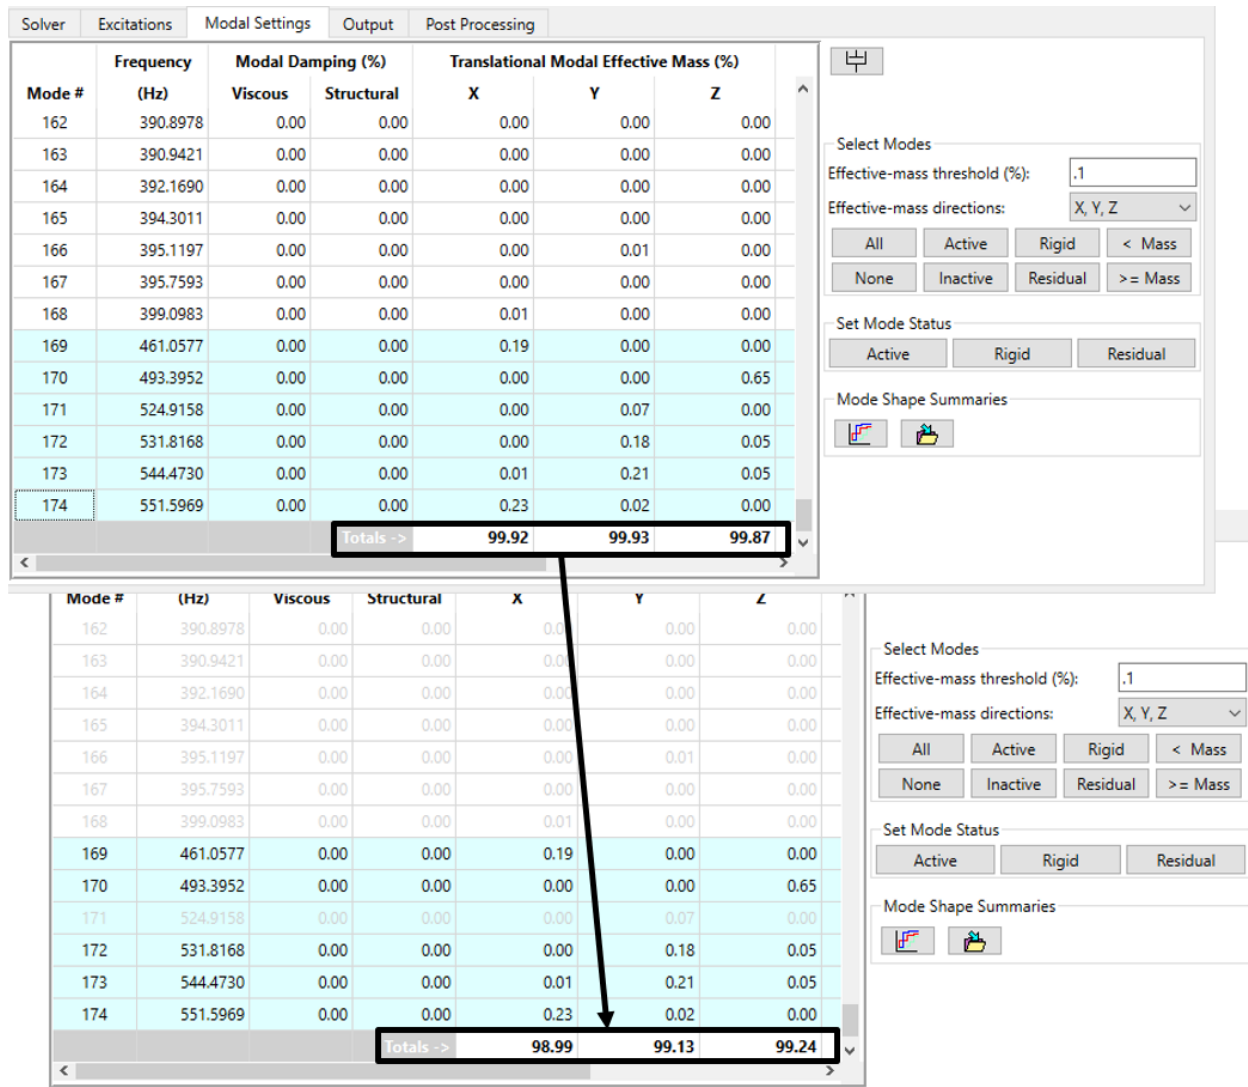

Figure 4-73. All but 51 of the 174 modes are turned off, but 98% of the effective mass remains.
3. With the low-mass modes selected, click the **Active** button in the *Set Mode Status* panel to deactivate the selected modes (Figure 4-73). This leaves only 51 of the 174 modes active, so the solver will compute responses at many fewer frequencies. Note, however, that we have deactivated less than about 1% of the effective mass for any of the translations.